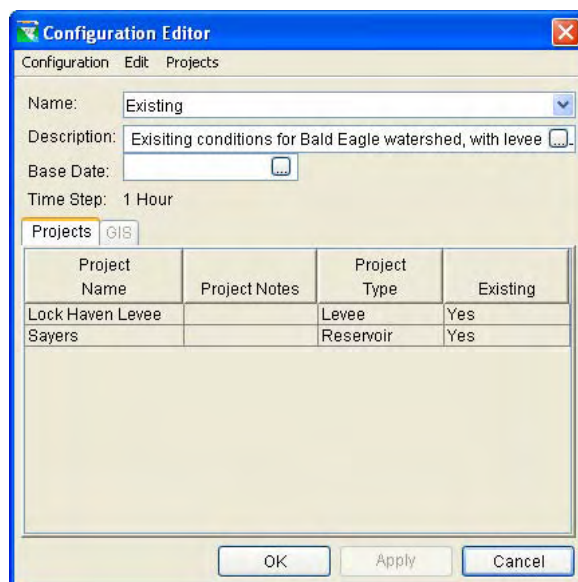

Figure 7.1 Configuration Editor
2. From the **Watershed** menu, click **Configuration Editor**. The **Configuration Editor** (Figure 7.1) will open.
1. On the **Configuration Editor** (Figure 7.1), from the **Name** list, select a configuration that you wish to copy.
1. On the **Configuration Editor** (Figure 7.1), from the **Name** list, select the Configuration that you want to delete.